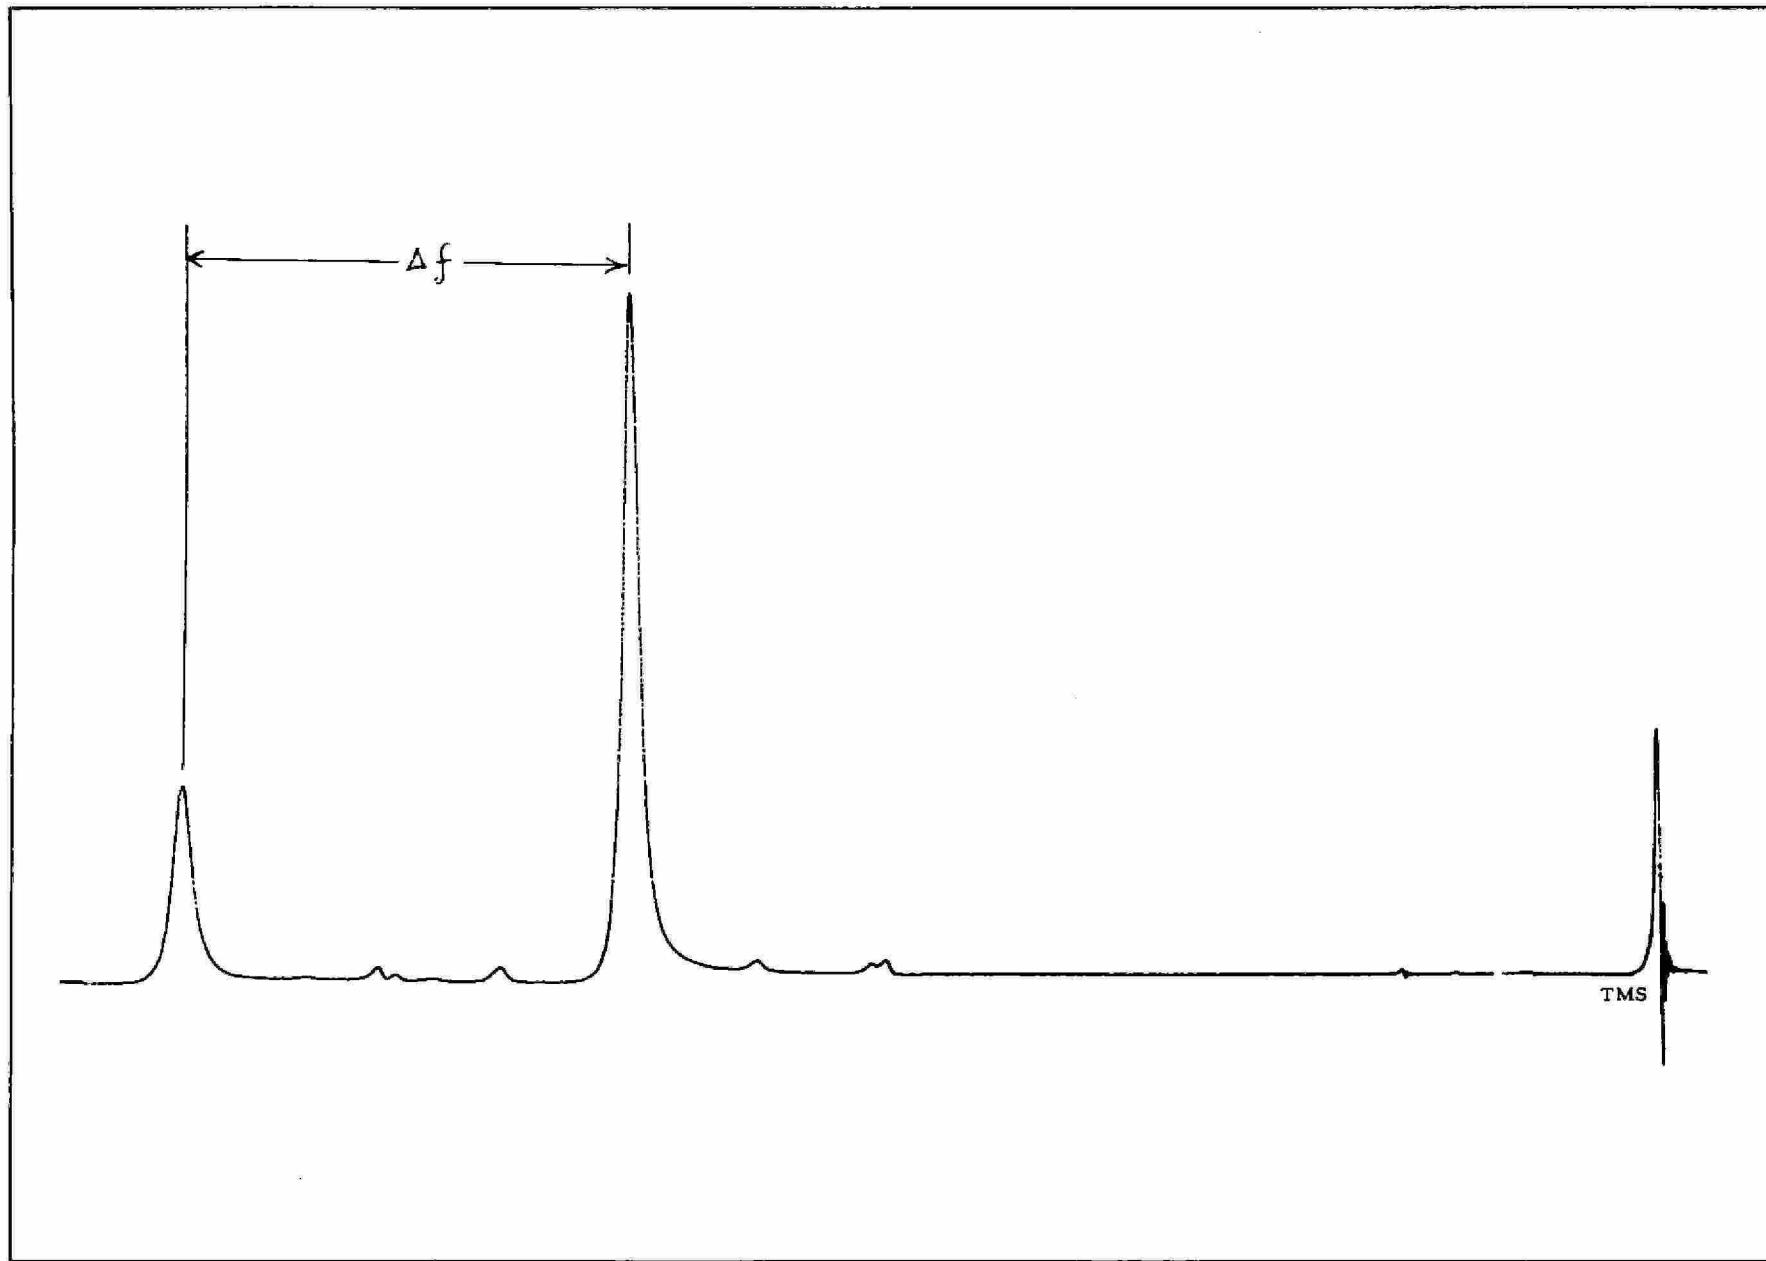

FIGURE 1-47. LOW TEMPERATURE
- f. Run a trace of methanol and position the spectrometer controls to place TMS, the right hand peak, on chart zero as shown in Figure 1-47.